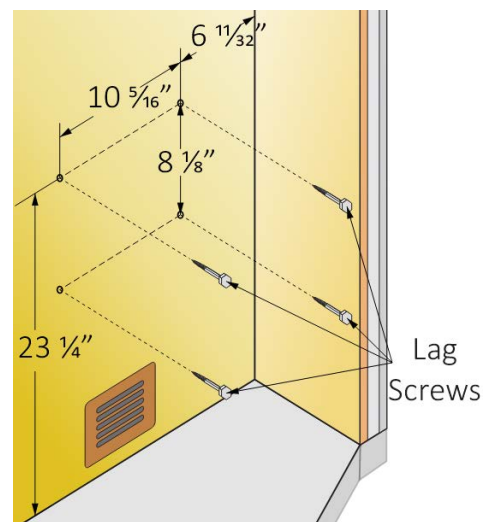
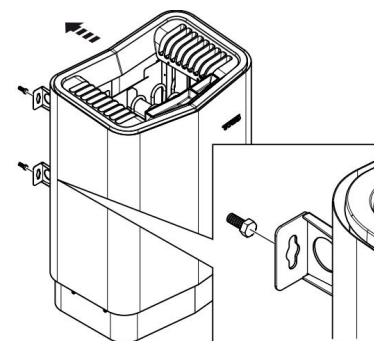

Figure 9. Wall Mount Dimension
Figure 10. Hanging the Heater
7. Using the dimensions shown in Figure 9, measure the locations on the wall and mark the points for where to mount the heater.
8. Using a 5/32" drill bit, pre-drill four (4) pilot holes.
9. Install the four (4) bracket screws that are provided, leaving about 1/8" of the screw shafts exposed.
10. Hang the heater brackets onto the four (4) bracket screws. See Figure 10.
11. Tighten the four (4) bracket screws.
13. Install the lock screw that is provided into the pilot hole. See Figure 10.